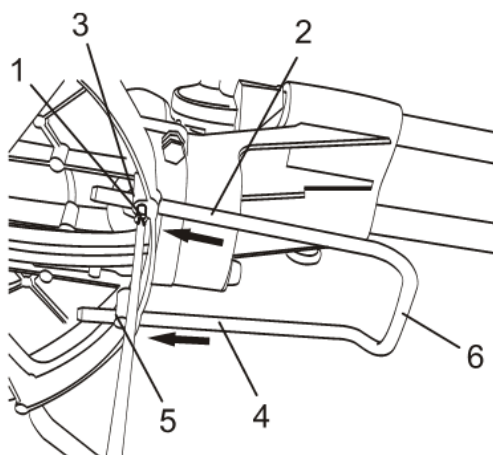

Fig. 2
1. Lock the cutting head in the down position and carefully roll the mitre saw approx. 150° counter clockwise on a clean sheet of corrugated to expose the under side of the base (Fig. 2).
2. Use a #2 \oplus screwdriver and turn the balance support locking screw (1) counter clockwise until the leg of the balance support (2) can be inserted into the hole in the base casting (3).